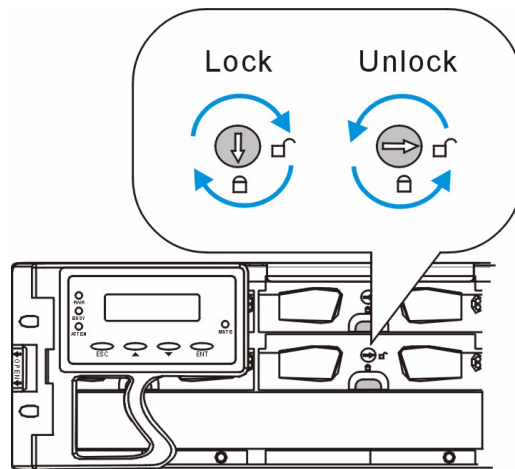

Fig. 3.5 Drive Tray Key-lock Rotation
5. Lock the flap into place by turning the key-lock until the groove on its face is pointing down (vertical orientation). (See *Figure 3.5*)